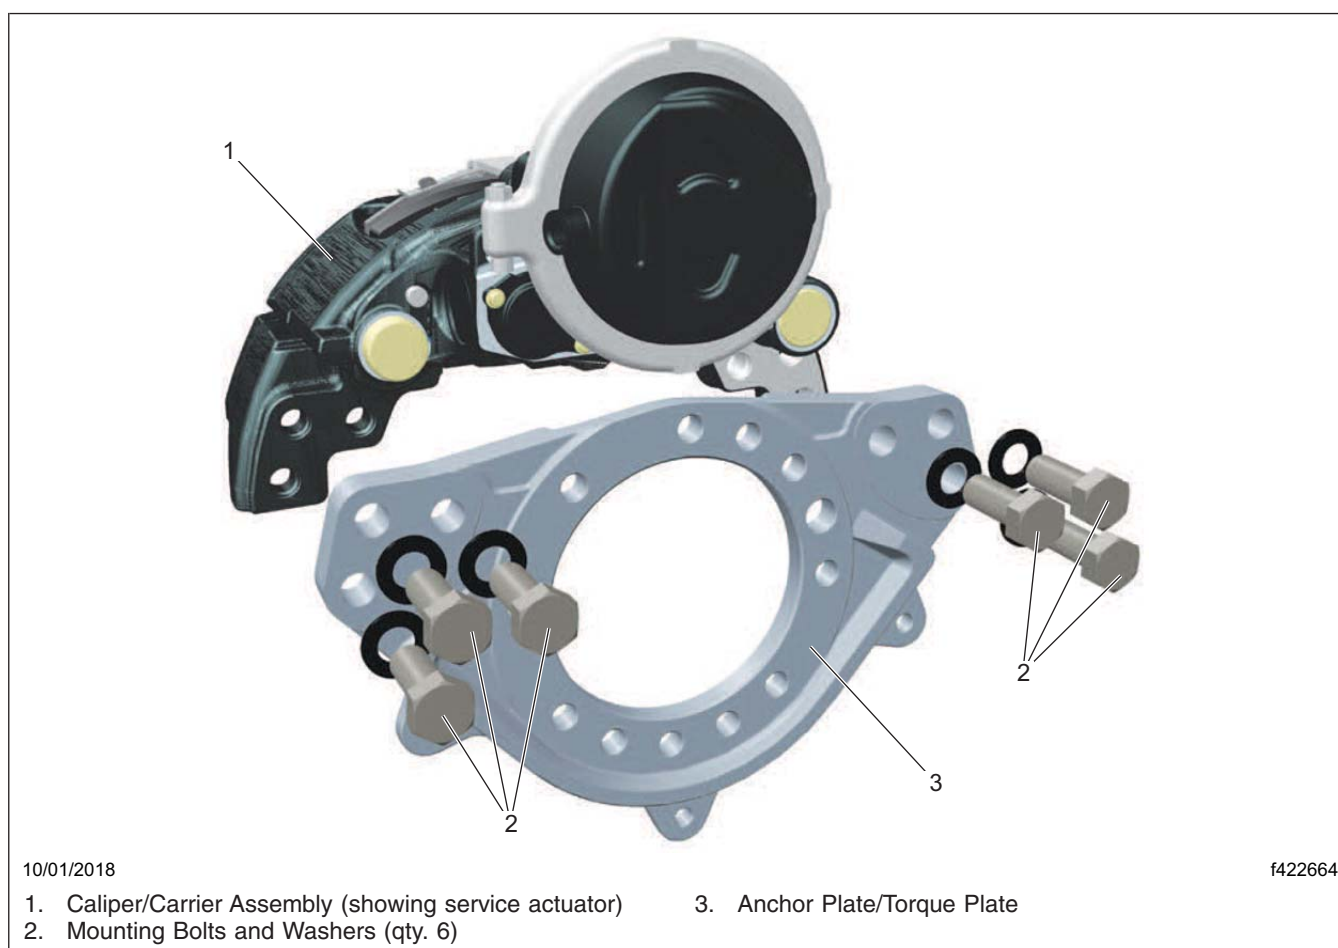

Fig. 1, Bendix Axial Mounted Caliper
5. Align each caliper/carrier assembly with the rotor by pushing the caliper against the shelf on the torque plate, then install the caliper/carrier assembly using new caliper mounting bolts. See Fig. 1.
NOTE: The Meritor axial mounted caliper is similar to the Bendix axial mounted caliper shown in Fig. 1.